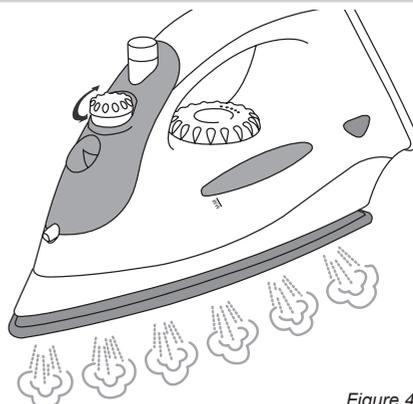

Figure 4
5. Use the steam-control dial to adjust the quantity of steam to the required level (see Figure 4).
7. You can use the steam shot function by switching the selection knob (6) to the '☂' position and then press it.